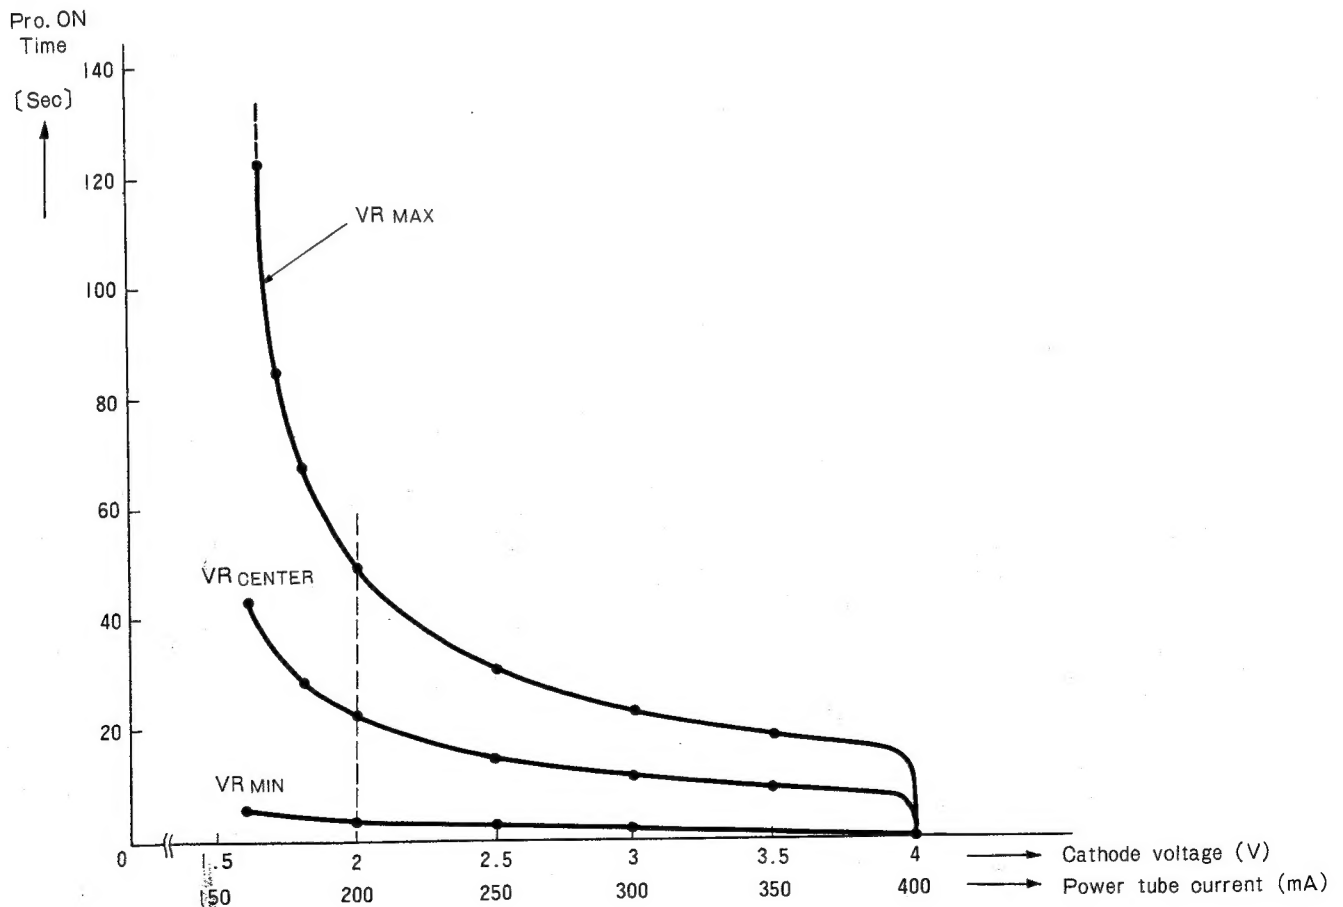

FIG. 3 PROTECTOR CHARACTERISTICS
0.7 V across the base-emitter junction — the same level as produced by the 240 mA fault current. Thus, the thyristor is turned on by this voltage to energize relay RL1, and protect the power tubes. To reset the protection circuit, shift the exciter stand-by switch to the receive mode or turn the LINEAR ON switch off. This procedure is necessary since relay RL2 has been self-held by "make" contacts since operation of relay RL1. The thyristor however has been automatically reset. Fig. 3 shows the operating characteristics of the protection circuit.
(1) Linear amplifier does not operate in transmit mode.	<p>(a) Confirm that remote cable is connected to exciter. External stand-by circuit is inserted in series with TL-911 linear-on switch. Linear amplifier, therefore, will not operate by merely turning linear-on switch on. Linear amplifier is set to transmit mode by connecting remote cable to exciter, turning linear-on switch on, and exciter stand-by switch to transmit mode.</p> <p>(b) Is remote cable properly connected between exciter and linear amplifier? (Accessory remote cable is for TS-515 or TS-510. For use with other exciters, change pin connections, referring to CONNECTIONS OF REMOTE CABLE on page 11.)</p> <p>(c) Confirm that voltage is on in relay circuit.</p>
(2) Output meter does not deflect.	<p>(a) SWR SEN knob on panel is in fully counterclockwise position, or meter switch is not in FWD position. (SWR meter sensitivity is increased by turning SWR SEN knob in the clockwise direction.)</p> <p>(b) SWR detection circuit is inserted into coaxial cable connecting relay RL2 and antenna connector. Confirm that the circuit is rectifying RF voltage. Also check meter switch circuit.</p>
(3) Overcurrent protection circuit does not operate.	<p>(a) Protection circuit is turned off since PRO TIME knob on rear of set is set in the fully counterclockwise direction. Note: This knob should not be adjusted in normal operation. Power tubes may be damaged if transmission is continued with protection circuit off.</p> <p>(b) Confirm that the protection circuit is powered. (The voltage should be approximately DC 15 V at pin 28 of X53-1000-00.)</p> <p>(c) Protection will start only after an extended period at a plate current of around 150 mA. This, however, is not a trouble but is due to the operating characteristic of the protection circuit. See Fig. 3.</p>
(4) Overcurrent protection circuit trips too quickly.	<p>(a) Confirm that PRO TIME knob, on the rear, is set to proper operation time. (Refer to ALIGNMENT for the time adjustment.)</p> <p>(b) Rated exciter input to TL-911 is 100 W. If driven by more than 100 W, protection will trip more quickly than rated due to increase in <math>I_p</math>. See Fig. 3. Protection will trip quickly if transmission is continued at an <math>I_p</math> of around 300 mA. This, however, reduces the life of the power tubes, and drive should be reduced.</p> <p>(c) If linear amp tank circuit is improperly adjusted, plate dissipation will be greater under this condition. <math>I_p</math> will rapidly increase with the increase in tube temperature and protection will trip more quickly. This usage, in turn, imposes an extreme overload on the tubes, causing them to flash. The tank circuit, therefore, should be adjusted until tubes deliver maximum output for a given rate of plate current.</p>
(5) Protection circuit trips instantaneously when operator whistles into the microphone in the SSB mode or talks in a stronger voice.	<p>(a) This occurs from an overdrive in which whistling instantaneously swings <math>I_p</math> to 400 mA or greater. Although instantaneous, this large current will rapidly consume the life of power tube cathodes and exciter microphone gain should be reduced to avoid this.</p> <p>(b) Variable resistor VR6 contained in the control unit is set to an instantaneous protection level of below 400 mA. Readjust the potentiometer by referring to ALIGNMENT.</p>